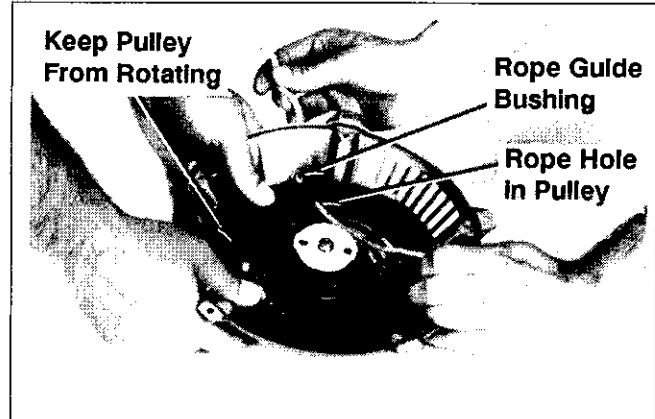

Figure 7-3. Installing Rope.
9. Insert the new rope through the rope hole in starter pulley and rope guide bushing of housing. See Figure 7-3.